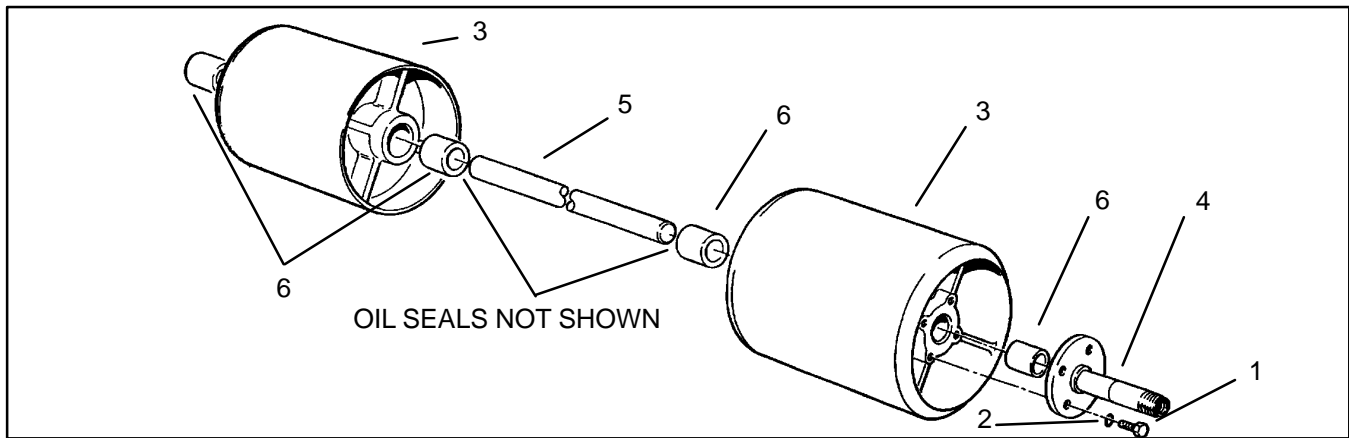

Figure 26
1. Remove four cap screws and lock washers from each drum. Remove both drum shafts extensions from each drum (Fig. 26).
2. Pull both drums apart and remove drum shaft from the drum (Fig. 26).